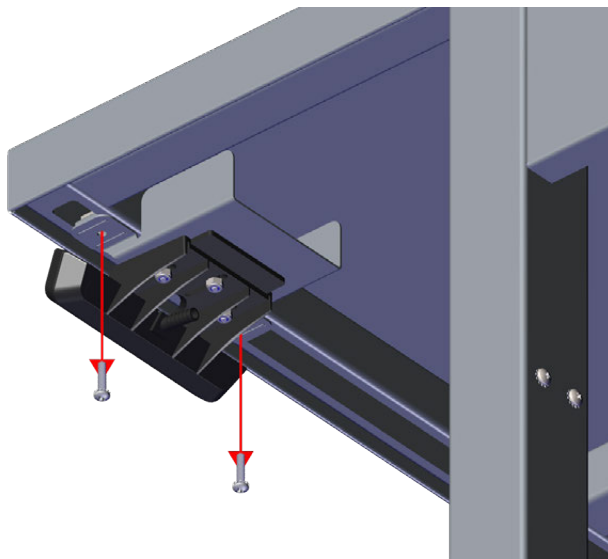

Fig. 12: Remove Old Memory Control Assembly
3. Remove two bolts attaching the entire memory control pad assembly (Fig. 12).